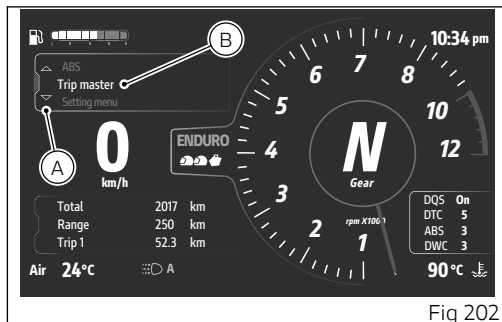

Fig 202
- Select the Interactive Menu (A, Fig 202) by pressing and holding the joystick in position ▲ for a long time.
- Use the joystick ▲ ▼ to select "Trip master" (B, Fig 202) and press ENTER.